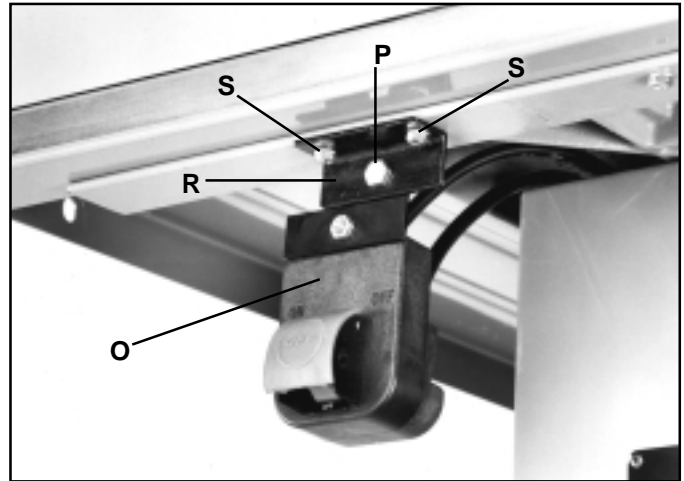

Fig. 25
3. Assemble the Contractor's Saws or Contractor's Saw II switch bracket (R) Fig. 25, to bottom of the front rail after the guide tube is placed on rail using the two 3/4" long hex head screws (S) and lockwashers. The screws (S) go through the two holes in the switch bracket (R), through the two holes in front rail and are threaded into the threaded holes in bottom of guide tube.
4. The switch (O) Fig. 25, will then be assembled to the switch bracket (R) as shown using the 1" long hex head screw (P), flat washer and hex nut supplied.